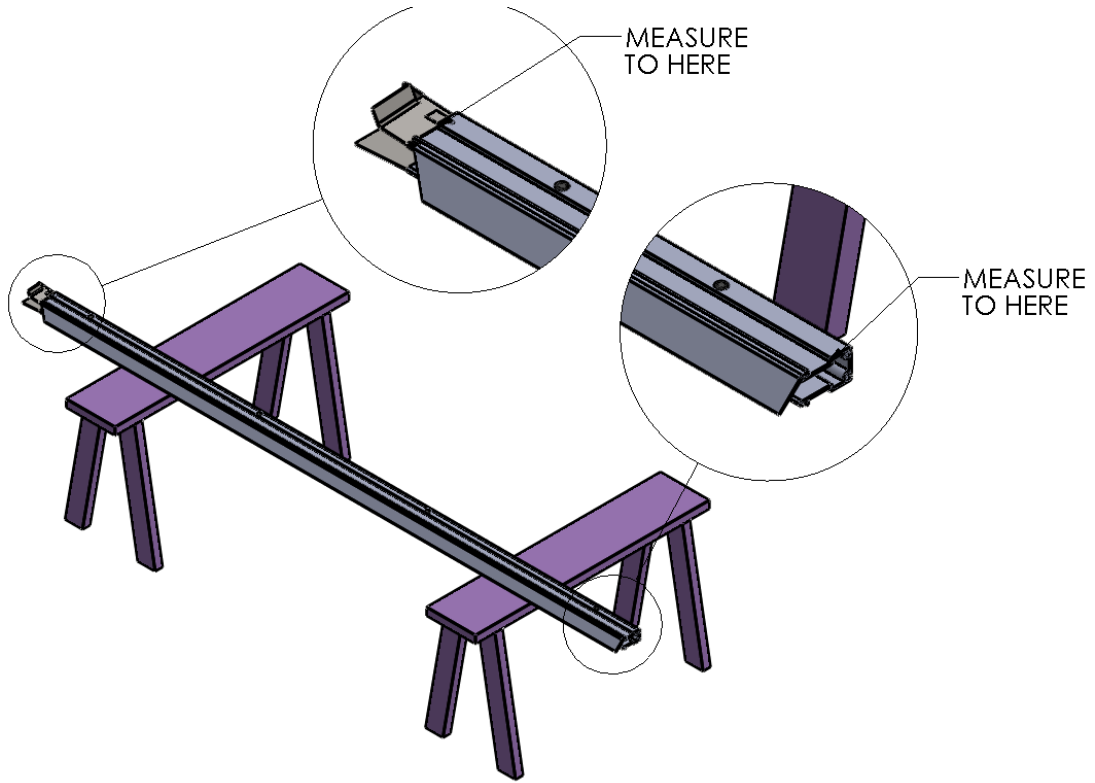

Figure 4 MEASURE TRACK HEIGHT
5. Set one of the Vertical Track Assemblies on your work surface and measure the length of the vinyl Track only. ADD 3-1/4" to this number and take note. This is the height dimension needed to mark the location of the bottom edge of the Header Mounting Brackets. With this number, add a horizontal line on each side of the opening that intersects the previously drawn vertical line marking the overall width of the roll assembly. (Figure 4 MEASURE TRACK HEIGHT) (Figure 5 MARK TRACK HEIGHT)